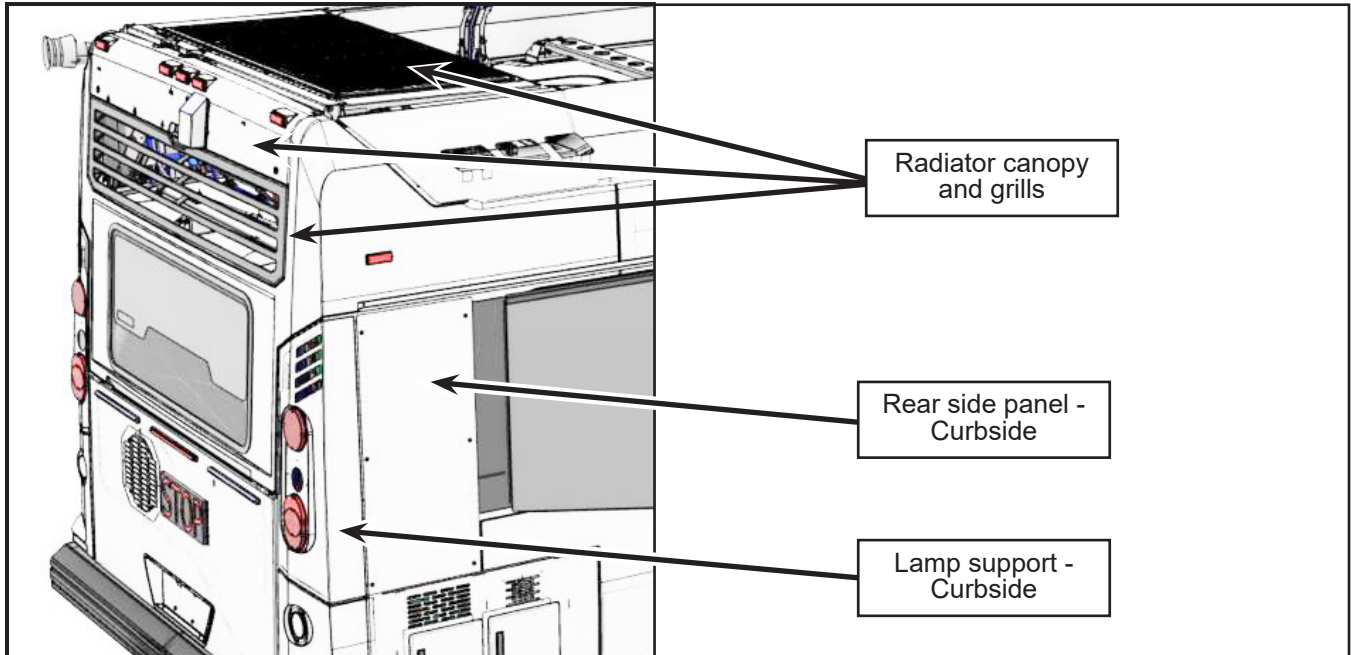

Figure 4 - Components to Remove to Access Pipe N81043-01
- 2.5. Outside the vehicle, to access pipe N81043-01, remove the following components (see Figure 4):